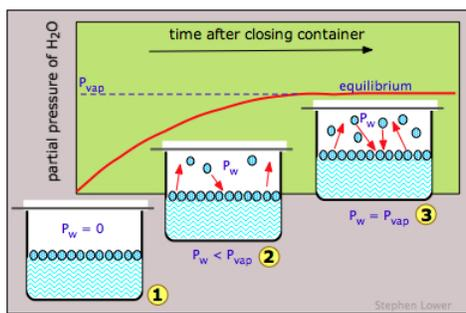

Figure 7.5.3:
If we do this for water (Figure 7.5.3), the partial pressure of water  $P_w$  in the vapor space will initially be zero (1). Gradually,  $P_w$  will rise as molecules escape from the substance and enter the vapor phase. But at the same time, some of the vapor molecules will "escape" back into the liquid phase (2). But because this latter process is less favorable (at the particular temperature represented here),  $P_w$  continues to rise. Eventually a balance is reached between the two processes (3), and  $P_w$  eventually stabilizes at a fixed value  $P_{vap}$  that depends on the substance and on the temperature and is known as the *equilibrium vapor pressure*, or simply as the "vapor pressure" of the liquid or solid. **The vapor pressure is a direct measure of the escaping tendency of molecules from a condensed state of matter.**